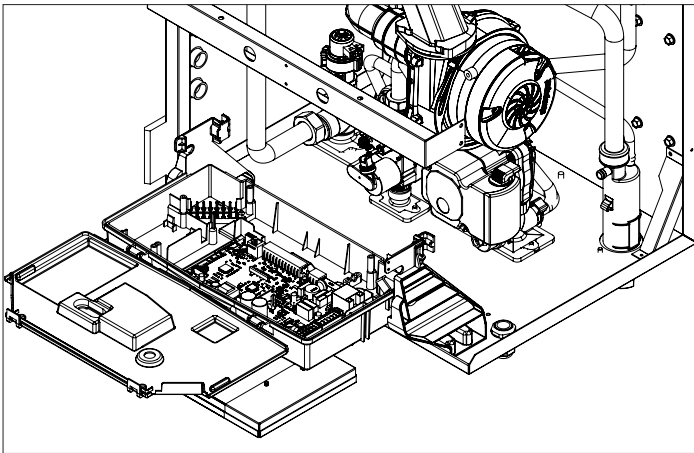

Figure 48 - Access to Low Voltage Wiring Connections
- Open the control panel cover to have access to the main PCB. See Figure 48.